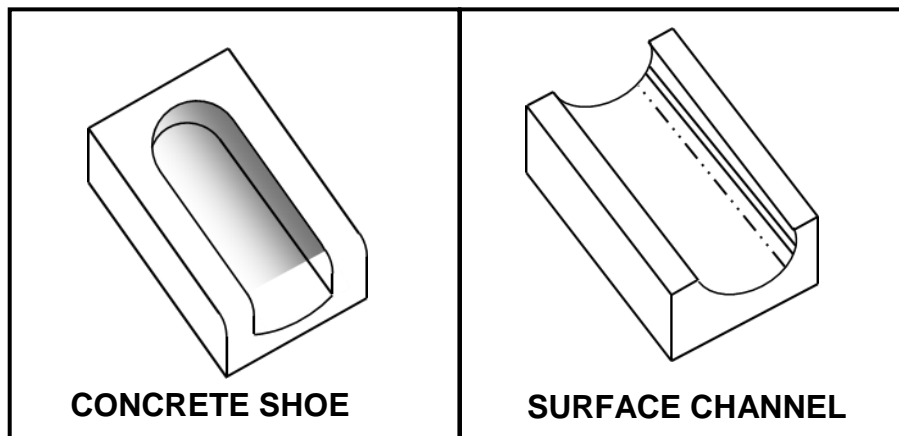

FIGURE 5.2
- 5.2 FIGURE 5.2 below shows drawings of a concrete shoe and a surface channel. Explain the purpose of each.